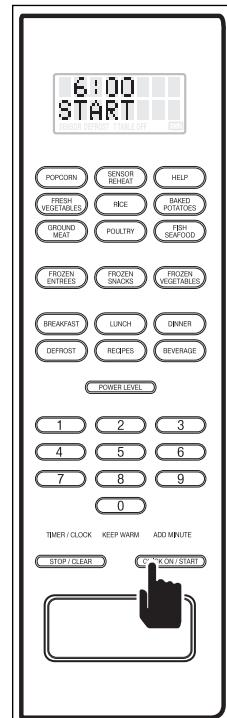

Figure 3-54.
6. Press the QUICK ON/START key and the start time will appear on the display along with the word "START" (See Figure 3-54). The microwave will now be energized at the time of day specified, for the amount of time specified and at the power level specified. At the end of the cooking time, "END" will flash on the display and the alarm will beep.